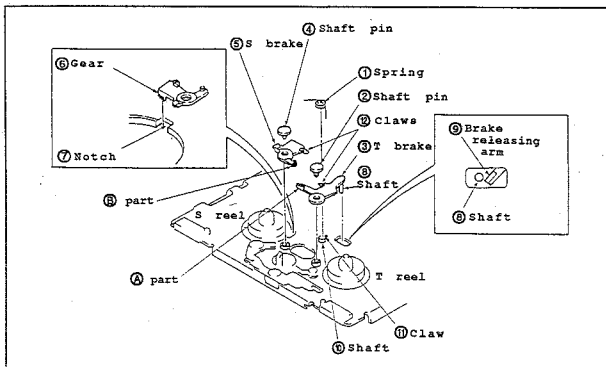
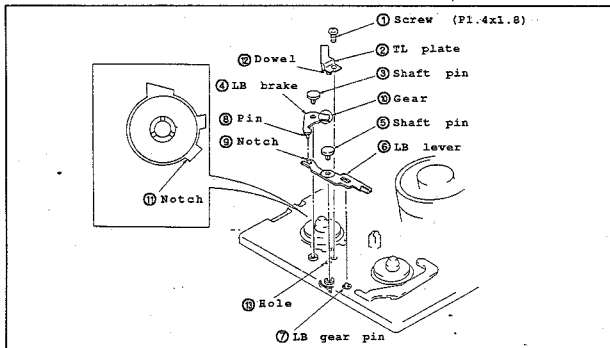

Fig.II-10
Fig.II-11
•Disassembling (Fig.II-10)
- (1) Remove the spring ①.
- (2) To take out the T brake ③, remove the shaft pin ②.
- (3) To take out the S brake ⑤, remove the shaft pin ④.
*Note: If the claw part of shaft pin ② and ④ damaged, replace them.
•Reassembling (Fig.II-10)
- (1) Install the S brake ⑤ while inserting the gear ⑥ into the notch ⑦.
- (2) Attach the shaft pin ④.
- (3) To install T brake ③, put the shaft ⑧ of T brake ③ into the S reel side comparing the brake releasing arm ⑨. At this time, part A must be at the drum side comparing part B.
- (4) Attach the shaft pin ②.
- (5) Insert the spring ① under the claw ⑪ of shaft ⑩.
• Disassembling (Fig.II-10)
- (1) To take off the TL plate ②, remove the screw ①.
- (2) To take off the LB brake ④, remove the shaft pin ③.
- (3) To take off the LB lever ⑥, remove the shaft pin ⑤.
*Note: If the claw part of shaft pin ③ and ⑤ damaged, replace them.
• Reassembling (Fig.II-11)
- (1) Assemble the LB lever ⑥ while inserting the LB gear pin ⑦ to the hole of LB lever ⑥. Then, secure it with the shaft pin ⑤.
- (2) Assemble the LB brake ④ while inserting the pin ⑧ to the notch ⑨ of LB lever ⑥ and the gear ⑩ to the notch ⑪.
- (3) Install the shaft pin ③.
- (4) Assemble TL plate ② while aligning the dowel ⑫ and the hole ⑬. Then, secure it with the screw ①.